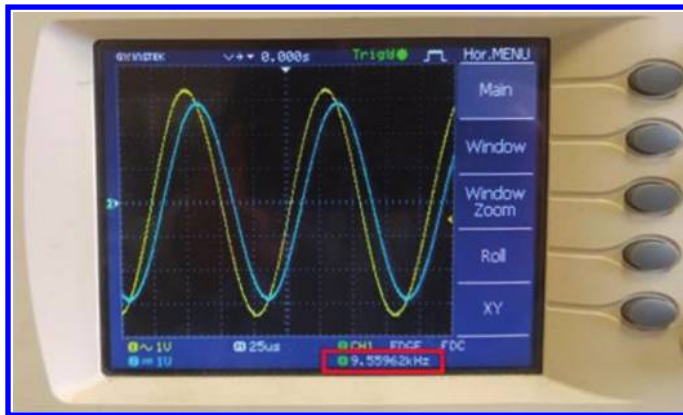

Figure 4.86: Frequency of waveforms are shown in the bottom of the screen.
1. calculate the period of the signal. According to Fig. 4.86, the frequency is 9.56 kHz so the period is  $\frac{1}{9.56 \text{ kHz}} = 104.6 \mu\text{s}$ ;